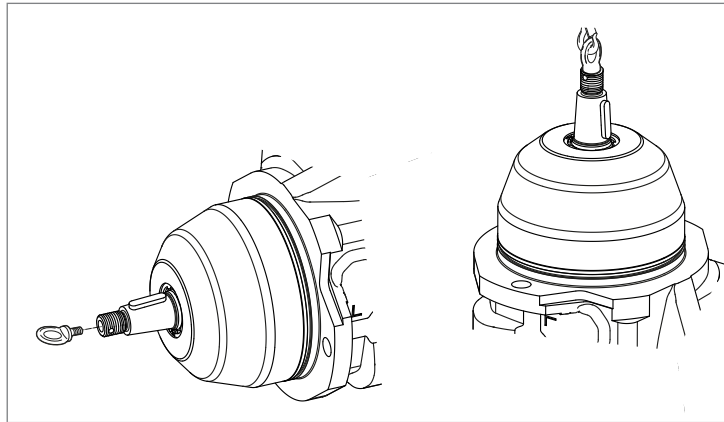

Fig. 4: Fixing the eye bolt
- Make sure that the eye bolt can bear the total weight of the axial piston unit plus 20%. You can hoist the axial piston unit as shown in Fig. 4 with the eye bolt screwed into the drive shaft.